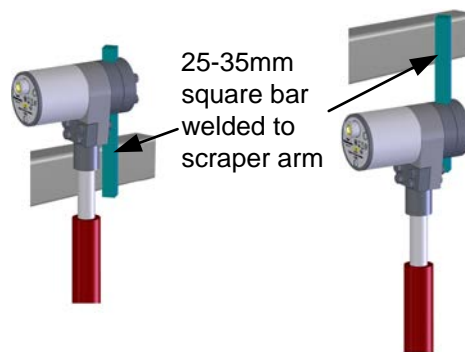

Figure 3: Fixing the sensor above or under the scraper blade arm
- Loosen the 4 Sensing Arm clamp bolts on the Head Unit and remove the locking bolt (A).
- Fit the two 'O' rings. These need to be located inside the clamp blocks up against the step as shown in Figure 3.
- The Head Unit may be mounted underneath or above the scraper blade arm (Figure 3). In both cases the Head Unit should be as far out of the mix as possible in order to keep it reasonably clean and minimise wear.